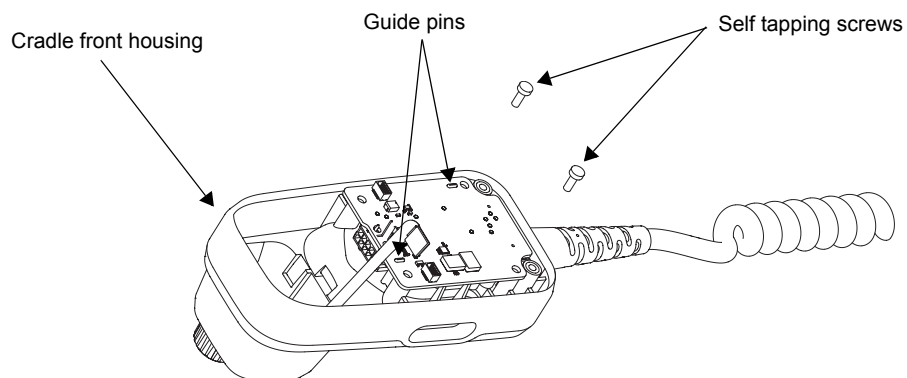

Figure 6-48 Cradle Main PCB Assembly
17. Fasten the two self tapping screws to Cradle front housing by using a T10 TORX™ screw bit with 5.0+/-0.1 lb-in torque. Refer to Figure 6-48.